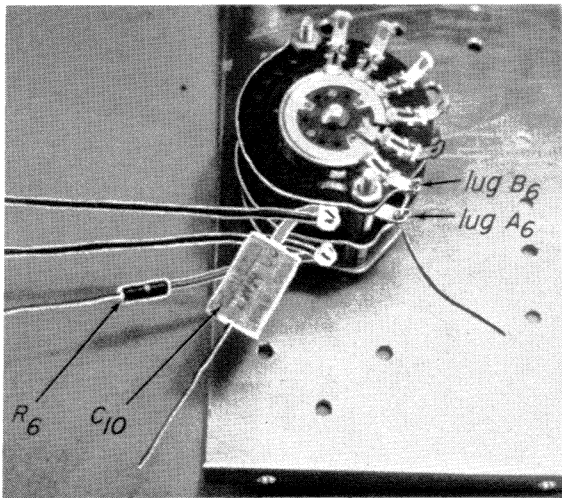

Fig. 21-4
and wire to the moving contact terminal of the rear wafer and solder, as shown in Fig. 21-4.
Step 7. Cut another 2-1/2 inch length of hookup wire and pull the insulation completely off the wire. Use this bare wire to connect switch terminals B_6 and A_6 together, with the loose end of the wire projecting from terminal A_6 . Solder the connection at A_6 and B_6 . After you have completed this wiring, the switch should appear as shown in Fig. 21-4. Put the tuning assembly plate aside and go on to the next job.